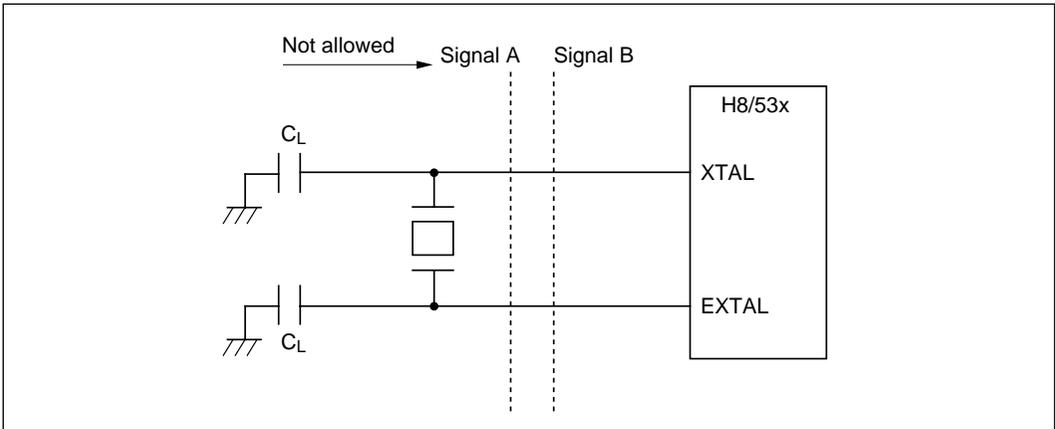

Figure 9-5 Example of Incorrect Board Design
- Other signal lines should be routed away from the oscillator circuit to prevent induction from interfering with correct oscillation. See figure 9-5.